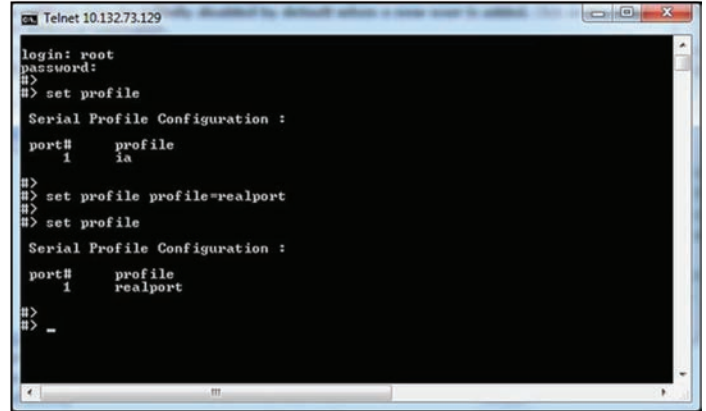

Figure 77: Telnet set profile command
- Enter the set profile command to view the current setting (see *Figure 77* below). To change the profile, enter the command again and specify the profile desired: